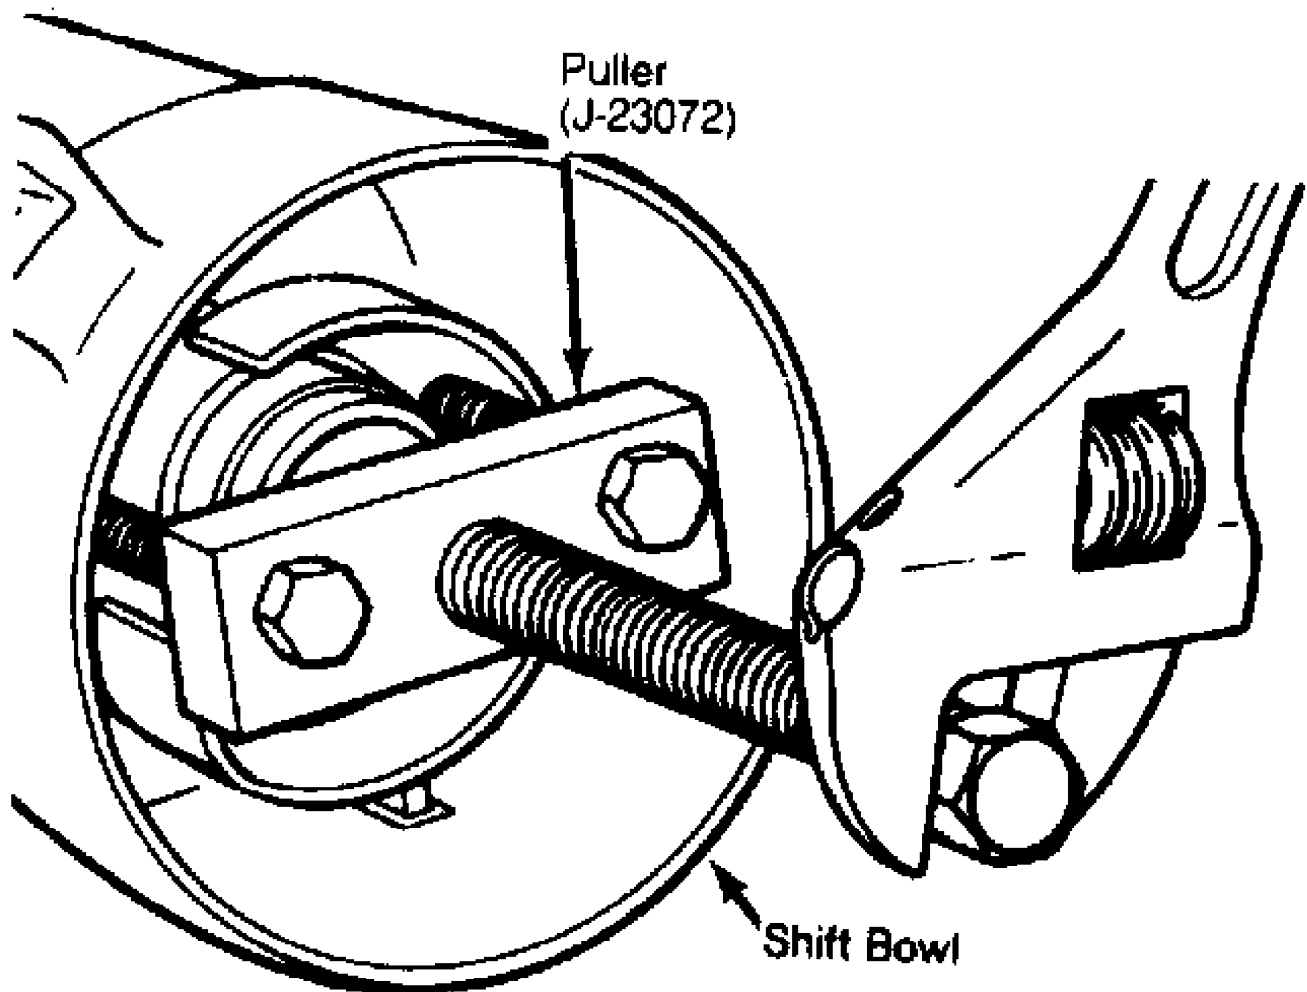

Fig. 7: Removing Shift Tube from Bowl (Tilt Wheel)
13) Remove retainer and bearing from lower end of steering column. Remove shift tube retaining ring and thrust washer. Using Puller (J-23072), remove shift tube from bowl. Insert bushing on end of puller in shift tube to force tube from bowl. DO NOT hammer shift tube as plastic joints may shear. See Fig. 7.